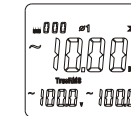

Figure 8-2
- As shown in Figure 8-2, please press “ Σ ” key to measure total three-phase power. Current measured power of the 1st phase location also shall be calculated and saved.